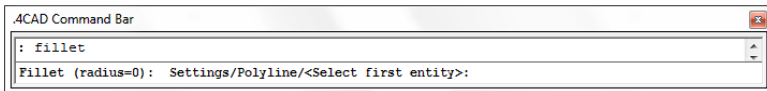

Fig. 127 – the communicate in Command Bar after selecting the Filler function
- In the prompt box (Command Bar), choose **Fillet Settings** (Fig. 127);
- In the new dialog box (Fig. 127 on previous page) choose the type of the post and define its parameters (there are two main types to choose from - cuboid (default) and pyramid, and a number of various basis: round, square, triangle etc.);